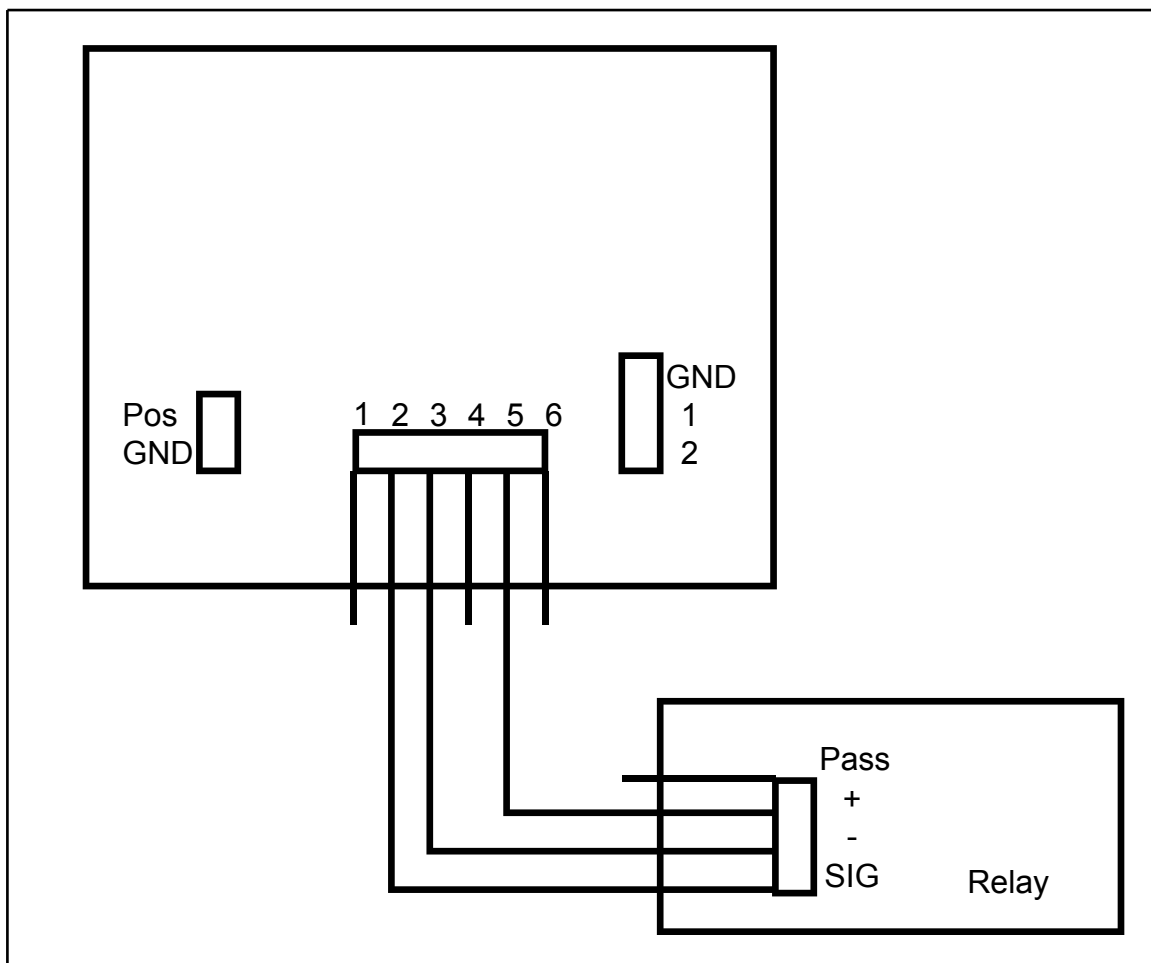

Fig. 1
2. Connecting the MZTimer to your PC. (see fig. 1 below)